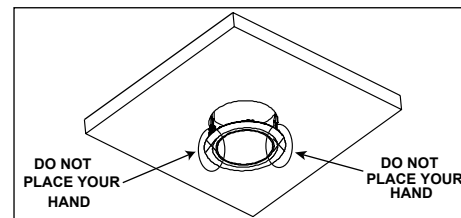

Figure 7
- DO NOT PLACE YOUR HAND UNDERNEATH SPRING CLIP DURING REMOVAL PROCESS. SNAPPING OF THE CLIPS CAN CAUSE INJURIES TO THE HAND. (Figure 7)